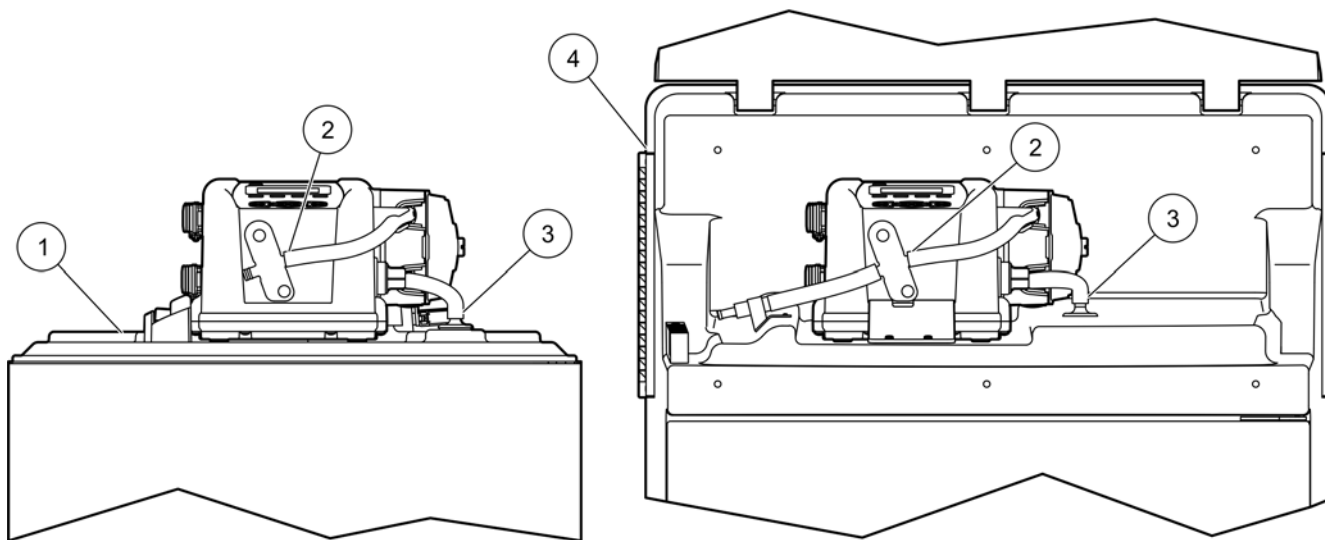

Figure 24 Pump tube installed
6. Connect the open tube end to the tube fitting on the sampler (Figure 24).